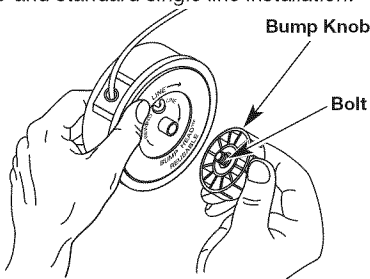

Fig. 14
1. Hold the outer spool with one hand and unscrew the bump knob counterclockwise (Fig. 14). Inspect the bolt inside the bump knob to make sure it moves freely. Replace the bump knob if damaged.
counterclockwise (Fig. 14). Inspect the bolt inside the bump knob to make sure it moves freely. Replace the bump knob if damaged.